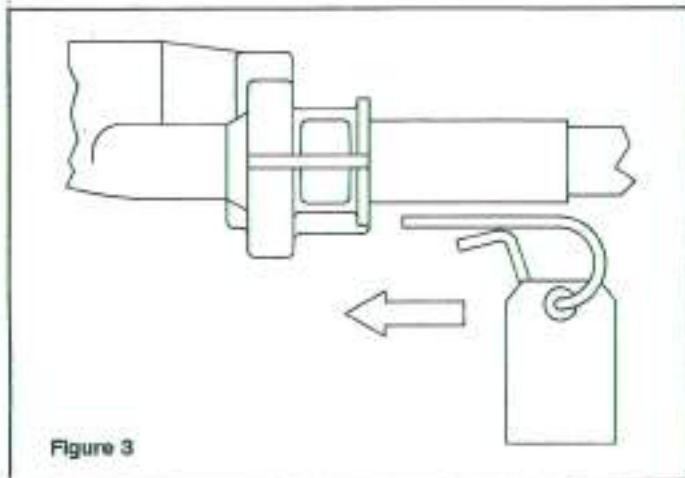

Figure 3
**STEP 3.** Replace pin as shown in Figure 3, making sure that it is fully seated. **DO NOT REMOVE TAG FROM PIN.**